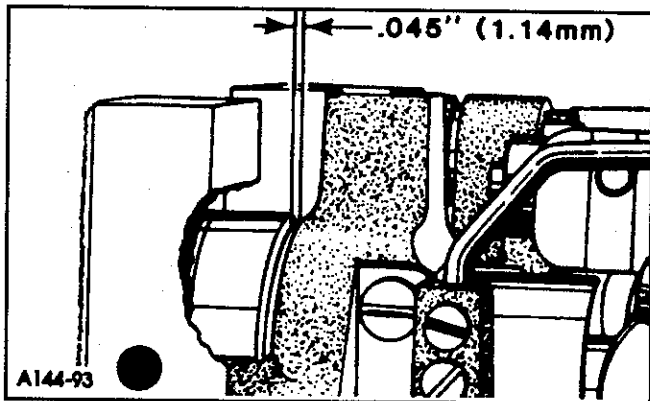

FIG. 28
As viewed looking down from rear of machine, spot screws (A, Fig. 27) in the couplings must align with the spots in the looper drive crank (B) and set screws (C) must align with the flats on crankshaft (D) and main shaft (E). main shaft must be positioned laterally with .045" (1.14mm) clearance between the right side of its head and the bed casting as shown in Fig. 28.